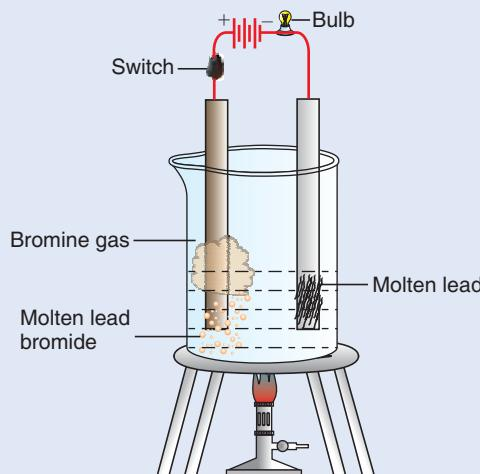

Figure 3.6 Electrolysis of Fused Lead Bromide.
- Assemble the materials as shown in Figure 3.6.
- Place small amount of lead bromide crystals in a beaker. Insert the two electrodes, as shown in Figure 3.6, until they are in contact with the lead bromide crystals. Then turn on the switch. Does the bulb glow?